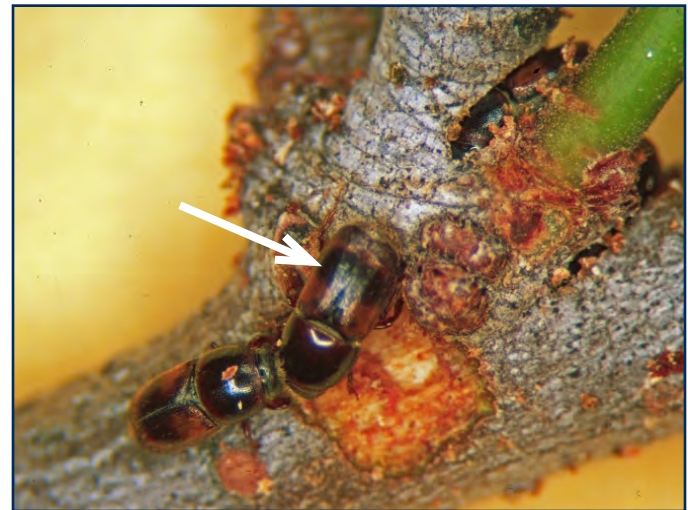
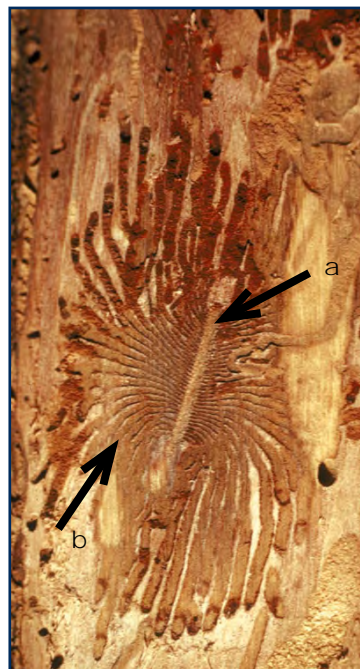

Fig. 1. Banded elm bark beetle (*Scolytus schevyrewi*) adults feeding on elm branch branches can transmit DED. Notice the band pattern on the wings.1
Fig. 4. Parental (a) and larval galleries (b) of *Scolytus schevrewi*.4
**Identification:** small beetle three-four mm long with black bands across the wings (usually apparent) (Fig. 1); from the side, the rear of the beetle appears to have a "finger nail" shape and spine.
Adult beetles emerge from dead or dying, DED-infected trees carrying with them the sticky, viable spores of DED. They fly to new elm hosts and feed on small branch crotches in the canopy (Fig. 1), transmitting DED to numerous locations throughout the canopy. Once the beetles have finished eating, they seek newly dead or dying/highly stressed trees in which to lay eggs. The female bores through the bark into the phloem layer just outside the wood and constructs a vertical parental gallery. As she tunnels, eggs are laid on either side of the parental gallery. Upon egg hatch, the larvae radiate out to the side of the parental gallery making a diagnostic pattern (Fig. 4). The tree may be killed by the introduced DED fungus, or by large numbers of the beetles alone via girdling of the phloem layer.